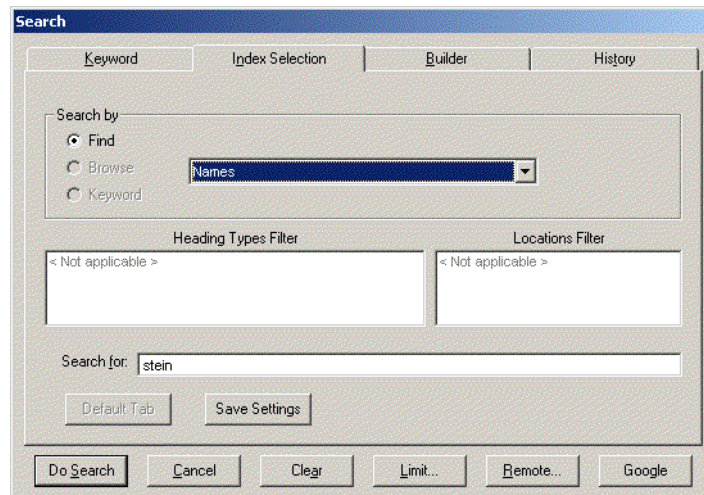

Figure 2-55. Completed Index Selection tab
7. Enter your search term in the **Search For** field (see Figure 2-55).